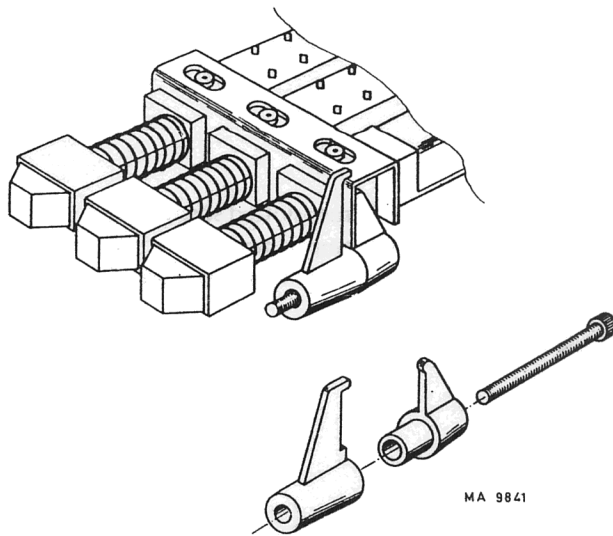

Fig. 3.28. Pushbutton set clamping device.
- Before the pushbutton switches are refitted to the front panel, it is advisable to stick the two parts of each clamping device together by means of adhesive tape or non-hardening glue, in order to facilitate replacement, refer to Fig. 3.28.